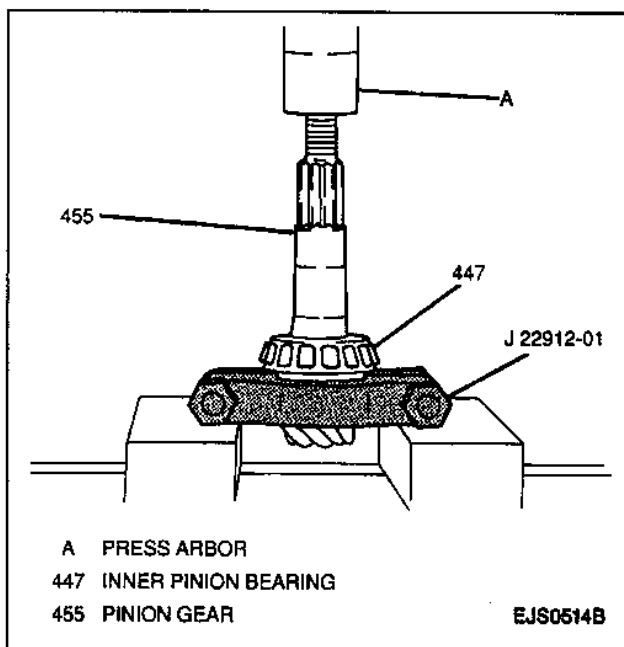

Figure 51—Removing Inner Pinion Bearing
23. Inner pinion bearing from pinion gear shaft using a J 22912-01. Place the J 22912-01 on the pinion gear shaft with the concave side toward the pinion gear. Then place the pinion gear in a hydraulic press and remove the rear pinion bearing (Figure 51).